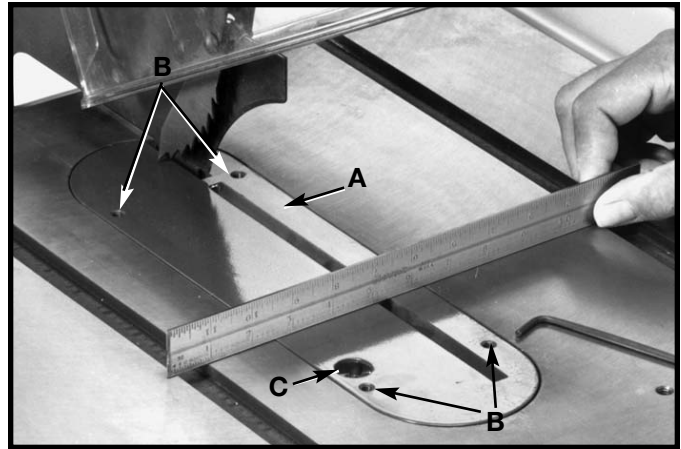

Fig. 69
Place a straight edge across the table at both ends of the table insert. The table insert (A) Fig. 69 should always be level with the table. If an adjustment is necessary, turn the adjusting screws (B). Four adjusting screws (B) are supplied in the table insert. The table insert is equipped with a convenient finger hole (C) for easy removal.